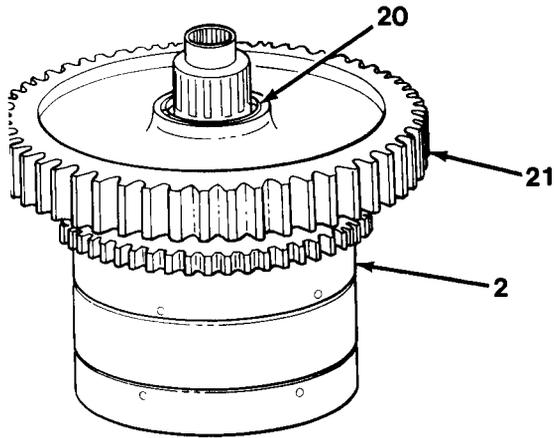
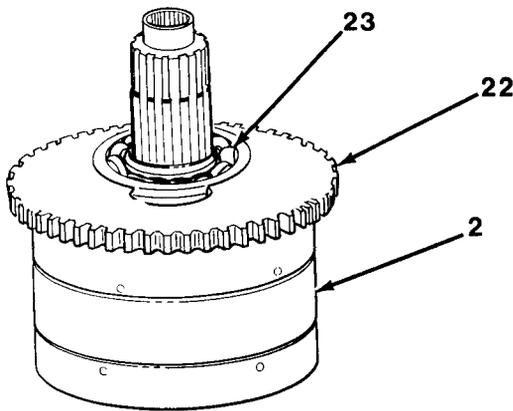

Figure 11-7
Figure 11-8
16. Remove snap ring (20) from clutch shaft assembly (2, Figure 11-7)
17. Remove third stage (21) from clutch shaft assembly (2).
18. Mark side of third stage gear (21) which is facing opposite clutch shaft assembly (2) to aid in assembly.
19. Using a puller, remove gear and hub welded assembly (22) and bearing (23) as an assembly from clutch shaft assembly (2, Figure 11-8).